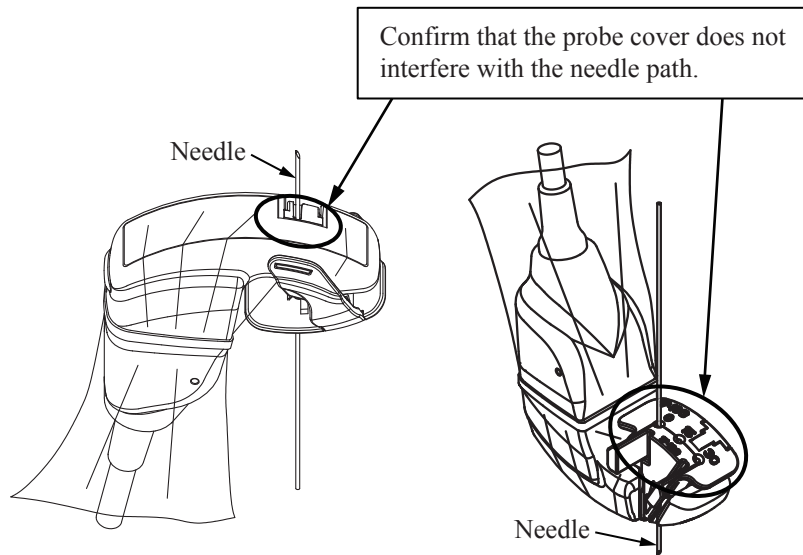

Figure 12 Confirmation of the needle path
- (8) Confirm that the probe cover does not interfere with the needle path by inserting a needle in each needle insertion groove (Figure 12).